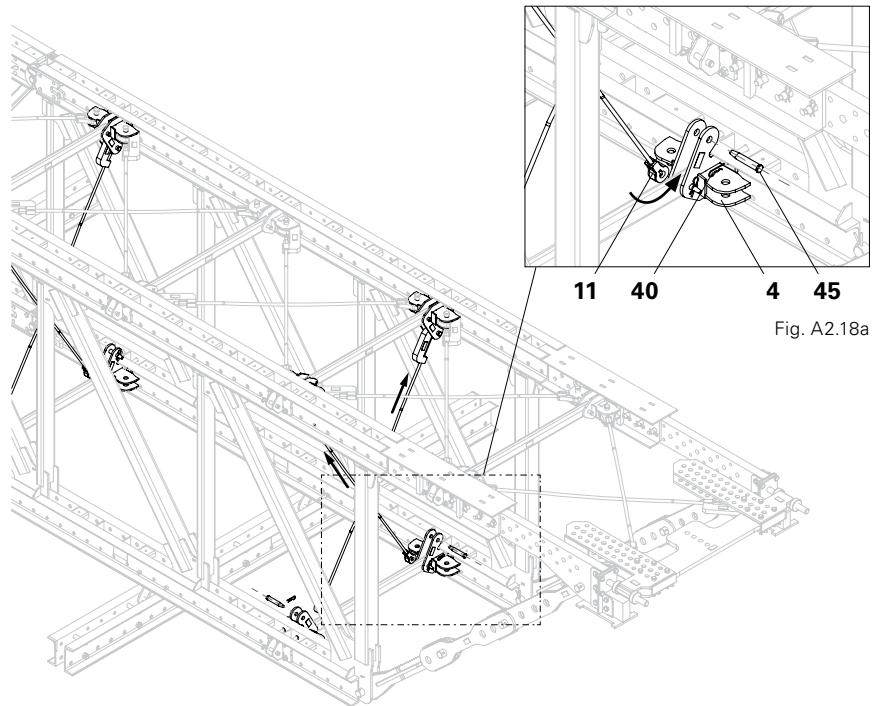

Fig. A2.18
1. Insert tie rod (13) into the Articulated Spanner. (Fig. A2.18)
2. Screw nut (60) onto the tie rod until it no longer protrudes.